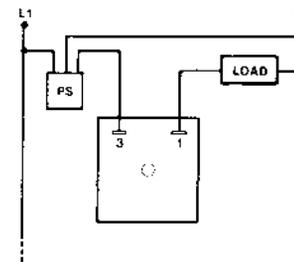

Figure 4A
**Solid State Timers:** The three-wire PS can be wired directly to most solid state timers as shown in Figures 4A through 4D.